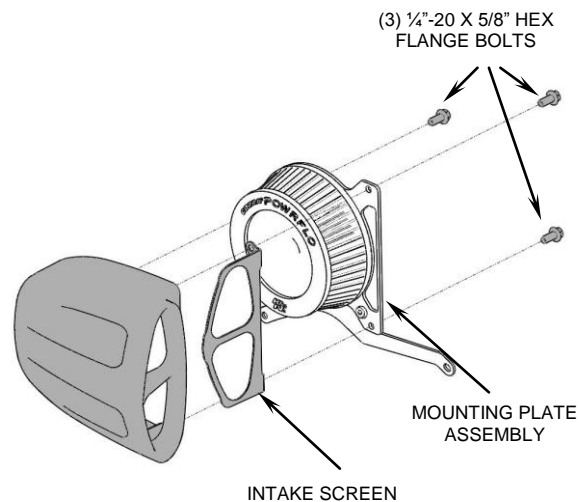

FIGURE 3
12. Place intake cover over the mounting plate assembly and align the mounting holes to the threaded bosses. Insert the (3) supplied 1/4"-20 x 5/8" flange bolts and tighten the mounting plate to the intake cover. See Figure 3.